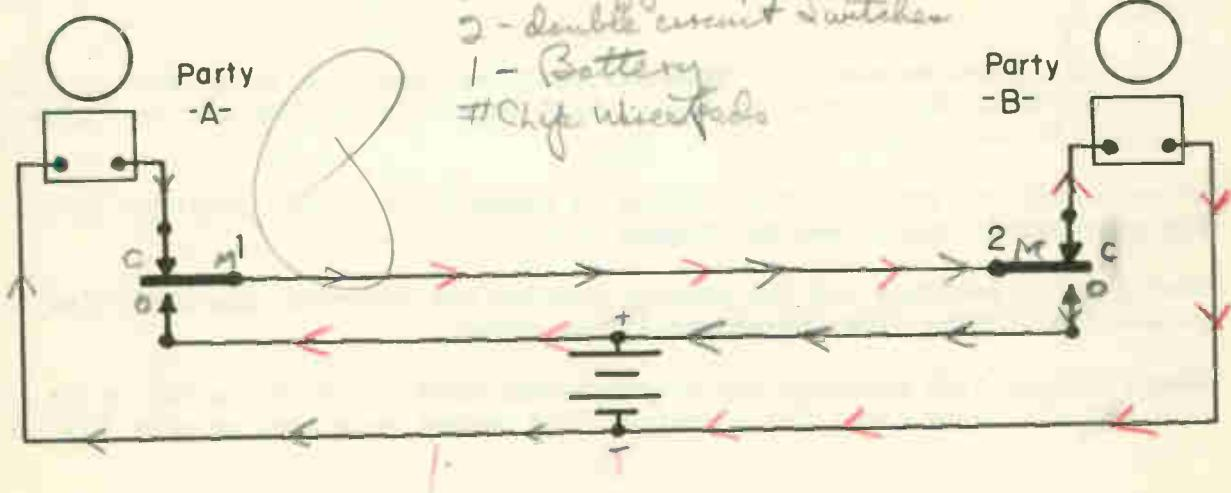

Fig. 2 A return call system using double circuit switches connected so that switch #1 calls party B and switch #2 calls party A.
6. Wire the circuit for Fig. 2 in the same manner and have it checked.
1. T (X) F ( ) Fig. 2 can be arranged so there are only two wires between stations.
2. T (X) F ( ) This is permissible in some cases.
3. T (X) F ( ) It is possible to arrange a return call system similar to Fig. 2 so there will be only one wire between stations.
4. T (X) F ( ) Disadvantage of the system mentioned in question 3, is that two sources are required.
5. T (X) F ( ) An open circuit push button system can be used on the above system.